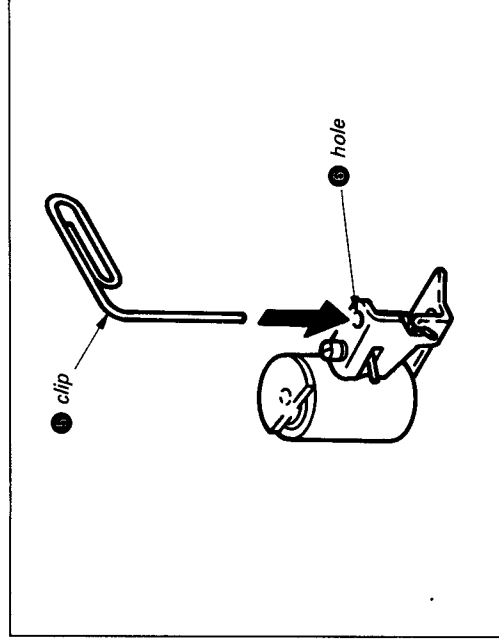

Fig. 7-20.
- 2) Insert the end of a paper clip ④ or other thin rod inside the pinch roller arm assembly hole ⑥. (See Fig. 7-20, 7-21.)